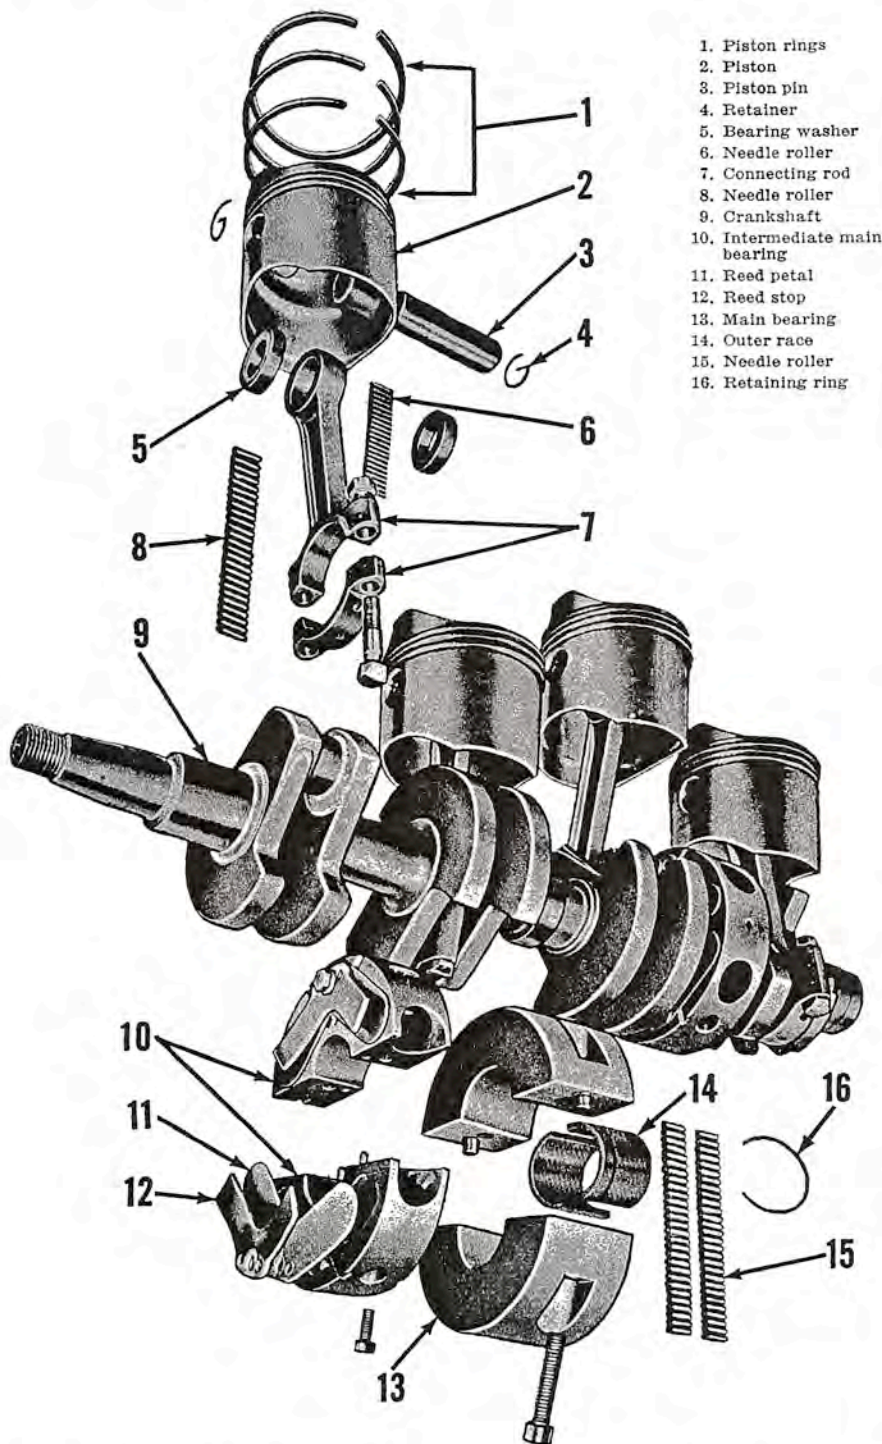

Fig. M96—Exploded view of crankshaft and associated parts used on four cylinder models. Six cylinder models are similar.
**CONNECTING RODS, BEARINGS AND CRANKSHAFT.** Upper and lower ends of crankshaft are carried by a ball bearing. The second and fourth main bearings (10—Fig. M96) on four cylinder models; or the second, fourth and sixth main bearings on six cylinder models also contain the inlet reed valves. The third main bearing (13) on